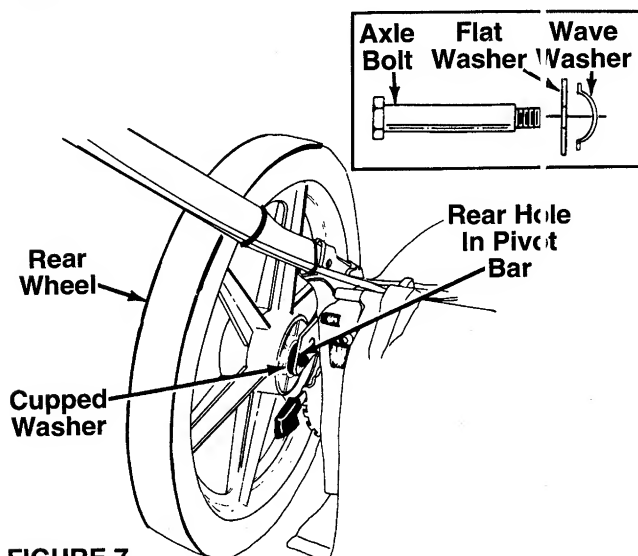

FIGURE 7.
- ← Assemble the rear wheels as follows. See figure 7.
3. Place one large flat washer on axle bolt, then the wave washer (cupped side against the flat washer as shown in figure 7, inset).